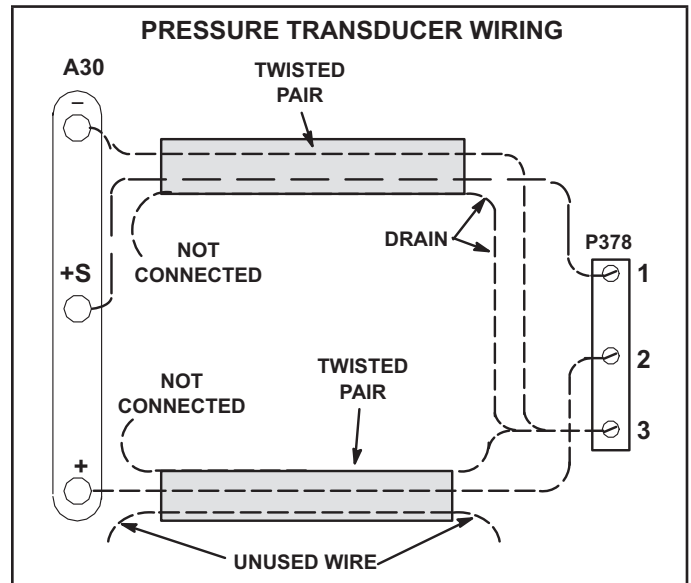

FIGURE 31
- 2 - Two twisted pairs of shielded cable must be used to connect the pressure transducer. See FIGURE 31. J/P378 connector is hanging in the control box.